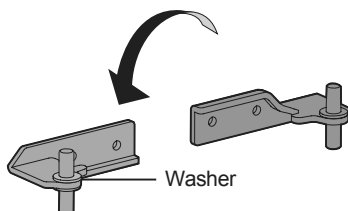

Figure 18
33. Remove washer from middle hinge and flip hinge 180°. Place washer onto top hinge pin of middle hinge (see Figure 18).